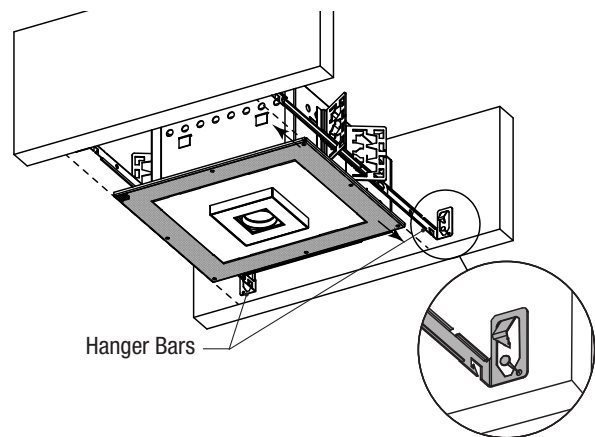

FIGURE 2
- Step 1.** Extend HANGER BARS to fit between joist and attach to joist or frame member using appropriate hardware for material. **See Fig 2, Detail 2A.**